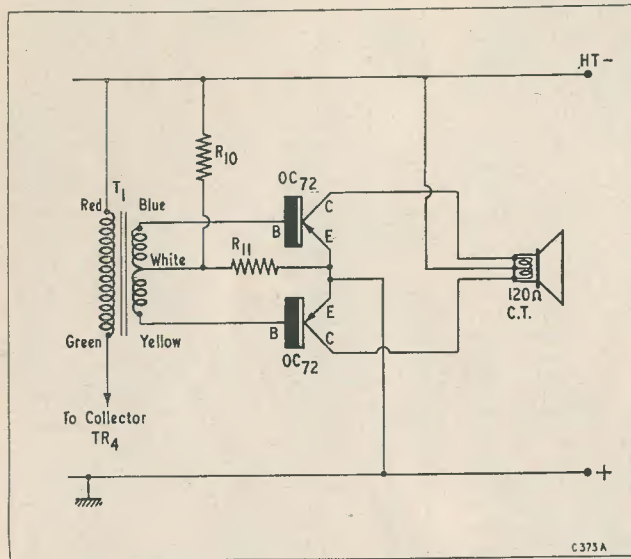

Fig. 2. An alternative output stage, in which the output transistors couple directly into the voice coil of the speaker
N.B.—For direct coupled operation (Fig. 2) TR5 and TR6 are Mullard OC72
put stage is also available in which the two output transistors feed directly into the centre-tapped voice coil of the speaker. The speaker is the Elac 7in. by 4in elliptical unit, having a 120 ohm centre-tapped voice coil, and it is designed especially for transistor work. The amended output stage circuit is illustrated in Fig. 2.